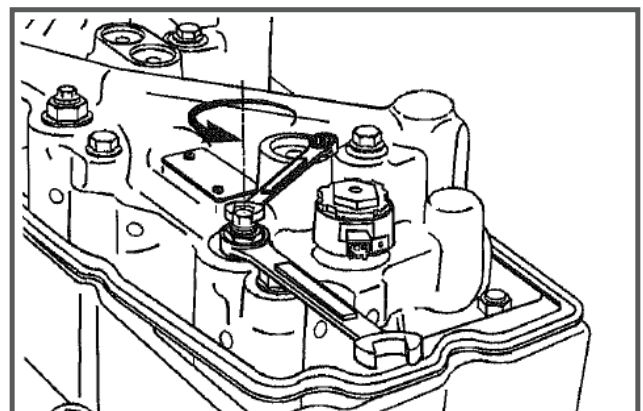

FIGURE 6
6. Remove the feeler gage, and using two wrenches, hold the adjusting screw and tighten the locknut to 34 Nm [25 ft-lb]. See Figure 6.